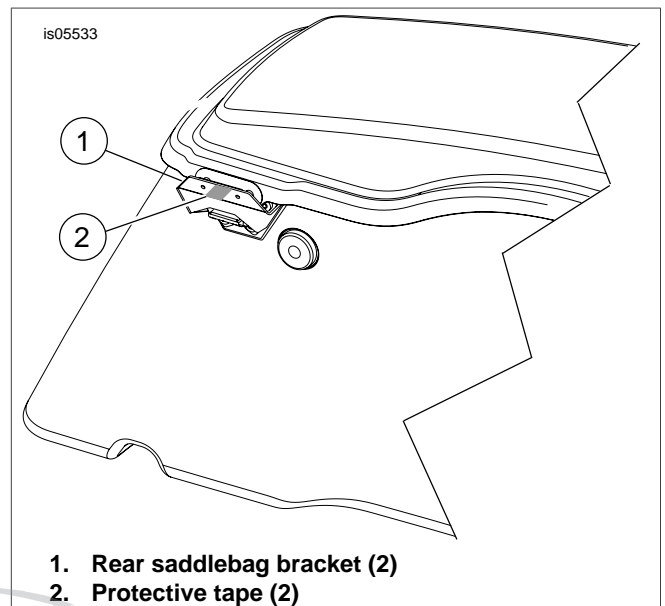

Figure 4. Apply Protective Tape
2. See Figure 4. Apply protective tape (2) to the rear saddlebag mounting bracket (1) on the saddlebag. Repeat for the other side.